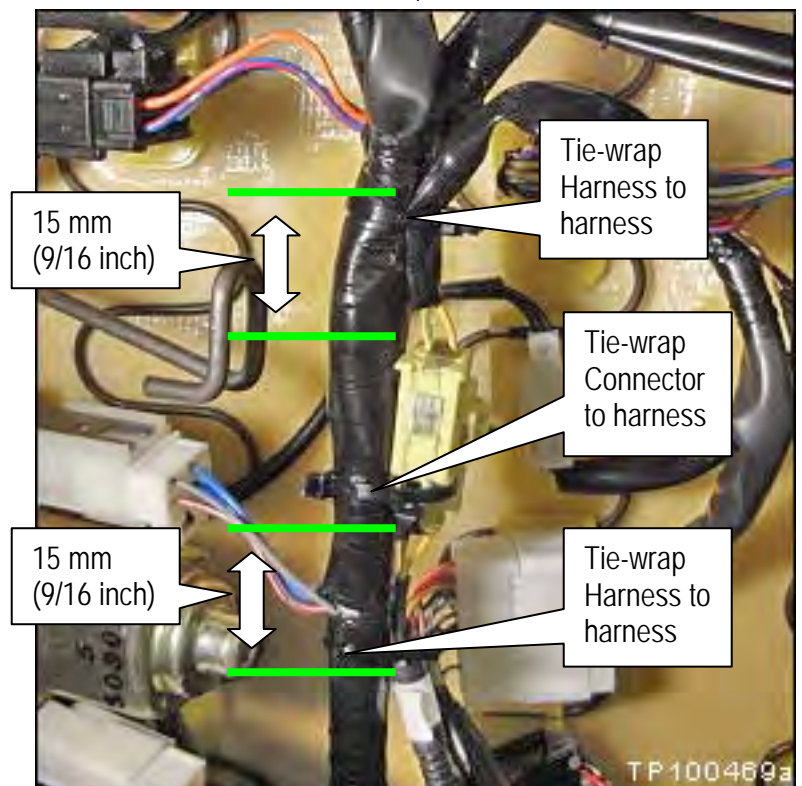

Figure 5b
- One tie-wrap (P/N 24216-S5800) - harness to connector - as shown in Figure 5b.
- Two tie-wraps (P/N 24216-S5800) - harness to harness - 15 mm (9/16 inch) from the connector as shown in Figure 5b.